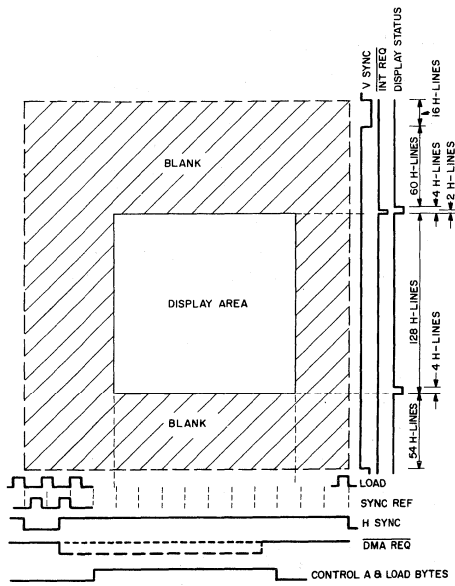

Fig. 5 — Spatial diagram of one video display field (not to scale).
The CDP1861C generates an interrupt request (INT REQ) once per field, 60 lines after the trailing edge of vertical sync and two lines before the raster has reached a "display window" (see Fig. 5). This request alerts the CDP1802 (or other control system) to prepare for DMA (direct memory access) activity. The CDP1861C DISP STATUS output goes low during the 4 lines before the display window, and again during the last 4 lines of the window. This signal may be used to give early warning of the display window and to release the control system from monitoring the DMA activity.
For the 128 x 64 display, the CDP1802 software requirement is straightforward. The DISP STATUS/EF1 line is not required, and EF1 may be used for other purposes. A simple interrupt routine merely resets the DMA pointer, RO, to the beginning of the display buffer area (see Fig. 5)—note the 3-cycle NOP instruction at the beginning which compensates for the 1-cycle interrupt. The first burst of eight DMA cycles occurs just as this routine finishes, as indicated by the bracket following the RETURN instruction (70). Exactly 29 cycles separate the interrupt request cycle and the first DMA burst. The interrupt routine must last at least 28 cycles, because the interrupt request line is held up that long by the CDP1861C.